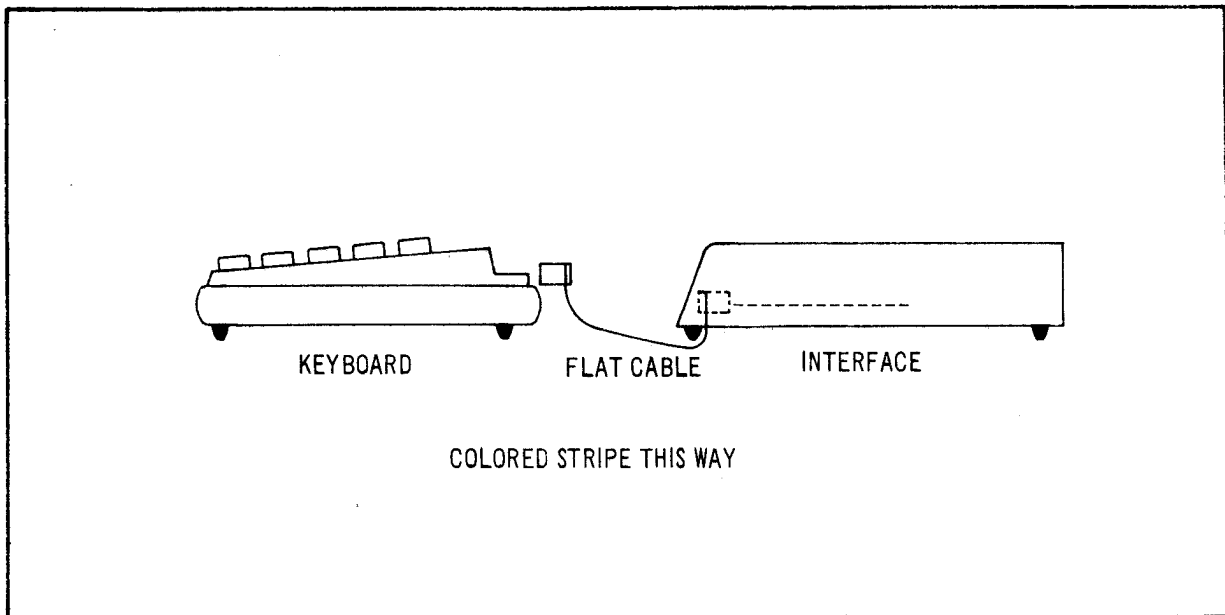

Figure 3-1. Keyboard Flat Cable Installation.
2. Referring to Figure 3-1, plug one end of the 6-inch keyboard flat cable onto the connector visible through the slot in the bottom of the interface.
- d. Recheck cable orientations against the Figures 3-1 and 3-2.